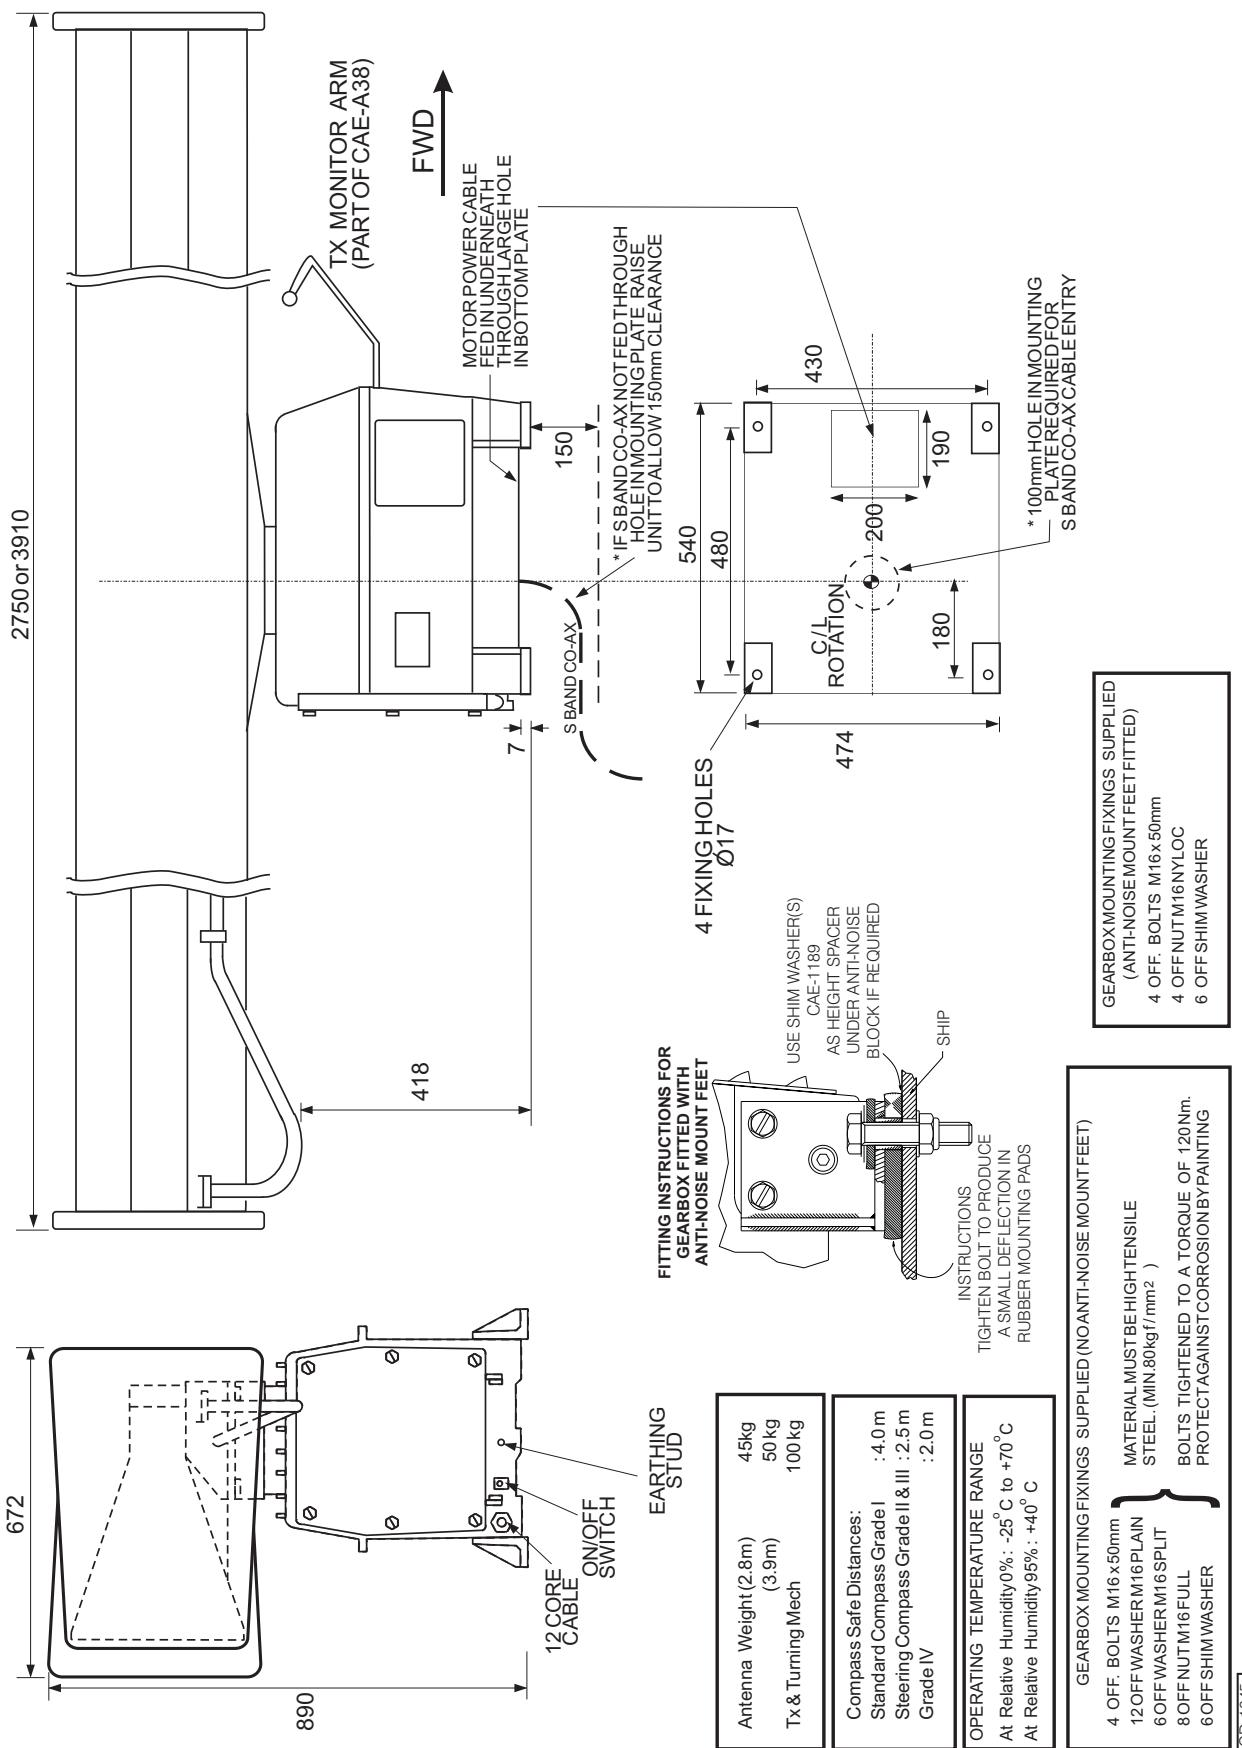

Figure 4e - Turning Mechanism (CAE-A41, A42): Installation Dimensions
- (1) Use the fitting pack supplied with the equipment (refer to Figure 4e). The fitting pack contains fixings that have been tested to withstand the stresses detailed in paragraph 33.
- (2) Recommended tensile strengths and torque loadings for the fixings are stated on the installation diagram.
- (3) For upmast transceivers/turning mechanisms mounted in excess of 1.8m above the deck, it is recommended that a service platform and guard rail are fitted.
- (4) Use a suitable jointing compound or sealant to prevent corrosion between the platform and upmast transceivers/turning mechanism.
- (5) Any chipped or damaged surfaces must be painted with polyurethane paint.
- 36 With reference to Figures 4e and 5e, install the upmast turning mechanism as follows:
- (1) Fit the coupling element and sealing ring to the antenna connector.
- (2) Fit the antenna to the upmast turning mechanism, ensuring that the connectors are aligned, and loosely secure using the eight M10 retaining bolts, washers and nuts.
- (5) Fit the spoilers to the antenna using the fittings supplied.
- (6) Mark out and drill four 17mm gearbox mounting holes at the mounting position.
- (7) For semi-rigid cable access mark out and drill a 100 mm hole in the mounting platform, as shown on Figure 4e.